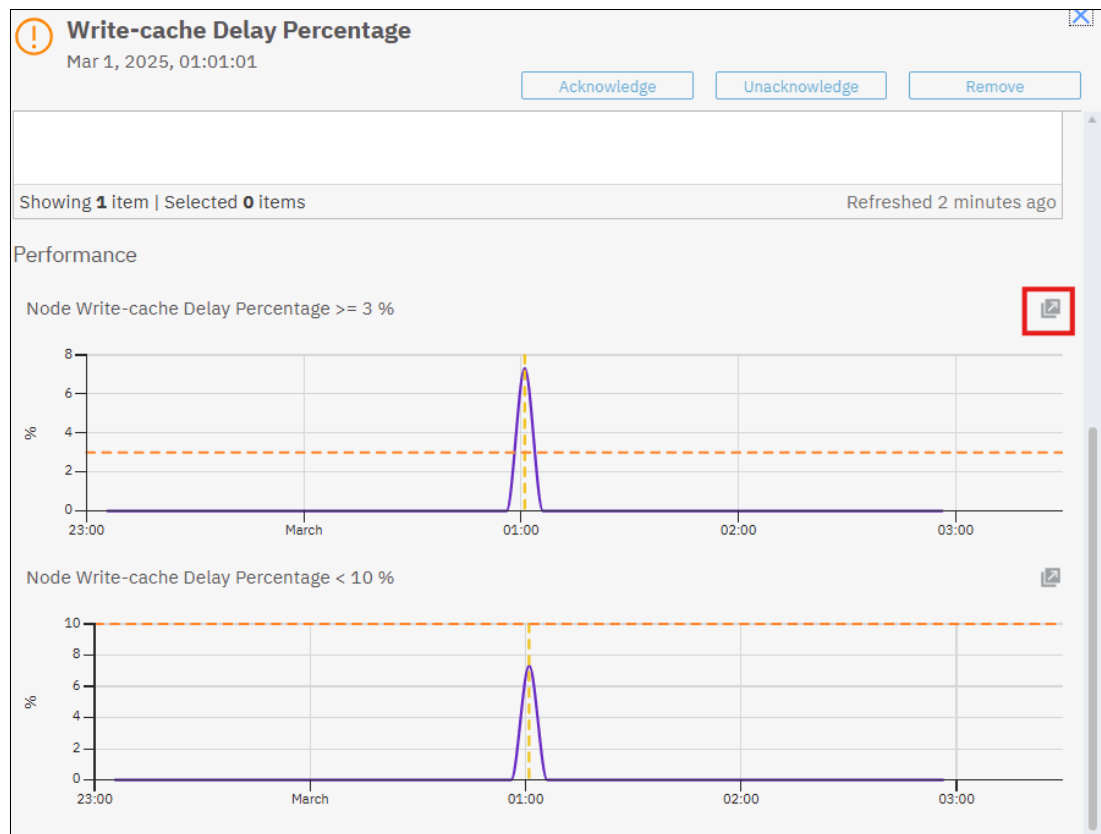
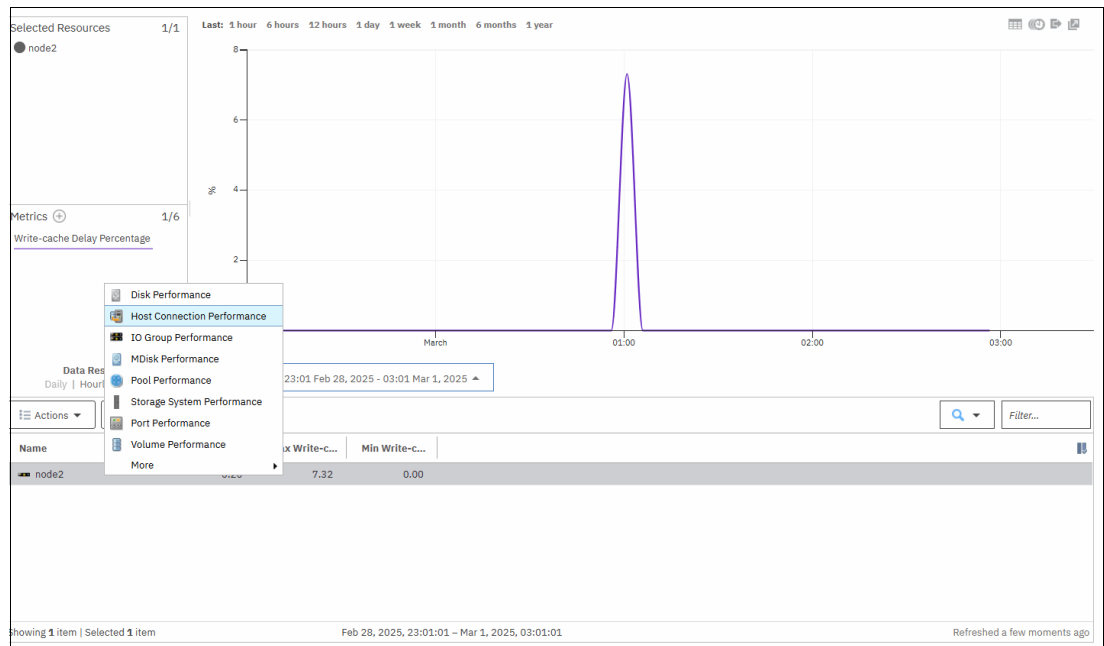

Figure 7-3 Alert performance data
Figure 7-4 Node performance data
- Figure 7-3 on page 157 provides some performance data about the alert. You can see that two conditions, that is, the write cache delay was above 3% but below 10%. (For information about multi-conditional alerts, see 7.2, “Multi-condition alerts” on page 160).
- To investigate what might be causing the alert and what resources (hosts, volumes, and so forth.) that it might be affecting, click the pop-out arrow in the upper right that is highlighted in Figure 7-3 on page 157. The window that is shown in Figure 7-4 opens.
- Figure 7-4 shows the performance data for Node 2 because the alert was generated against Node 2. Write cache delays are potential delays of write operations. You can check to see whether there is a correlation to the write data rate.
Note: The period for the performance data in Figure 7-6 is the same as it was in Figure 7-4. IBM Storage Insights does this task automatically for any performance data that you are reviewing. So, if you set a custom period, you do not have to reset it for each new chart that you open.